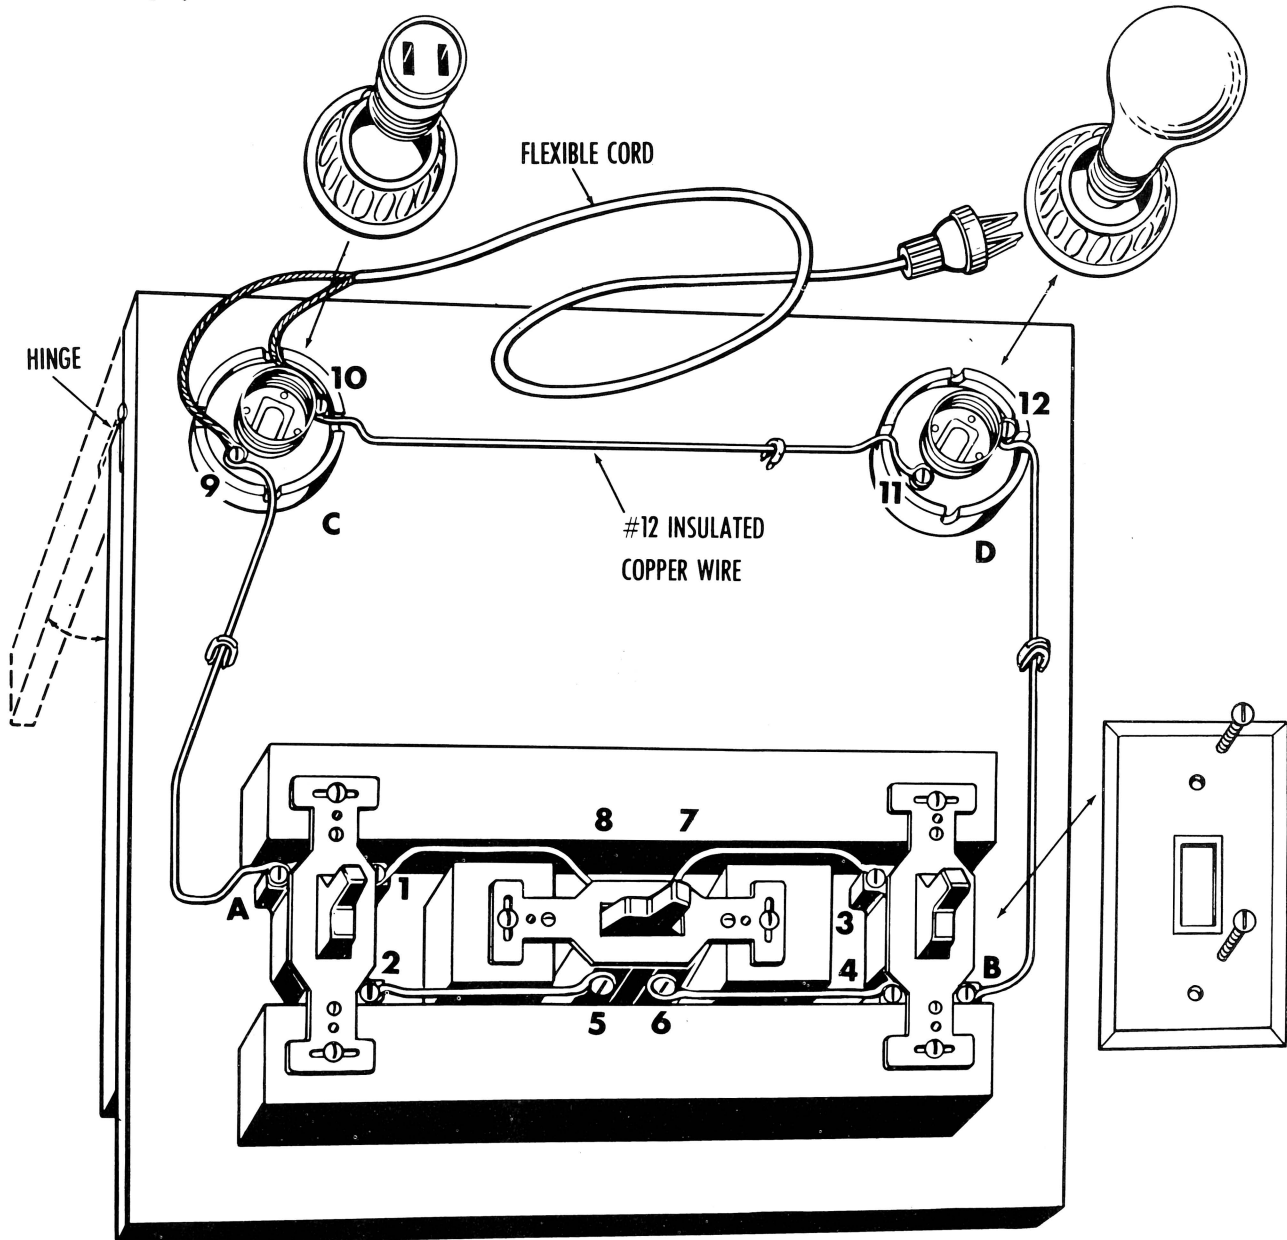

Figure 8 DEMONSTRATION CONTROL BOARD
Prepare your board as shown in Figure 8. The cleats should be about 3" shorter than the board is wide, and just far enough apart for mounting your switches. Attach wooden "feet" or legs to underside of board at corners as shown. Use wood screws or nails. The board is now ready for mounting switches, light socket and wiring.
Mount switches as shown in Figure 8, with 4-way switch in the middle. Use mounting hardware that comes with switches and socket. (When wiring has been completed and checked, put the plates over the switches and screw covers on sockets to cover exposed terminals.) Mount light sockets as indicated.
3. Wire the board as shown in Figure 8. With a pencil, check off the corresponding wire in Figure 8 as you attach each wire to the circuit. In this way, you'll be sure you haven't omitted a wire. Check off (✓) each wiring step below as it is completed.
- () Use the remaining wire to connect other terminal (12) of the light socket D with terminal B of the second 3-way switch.